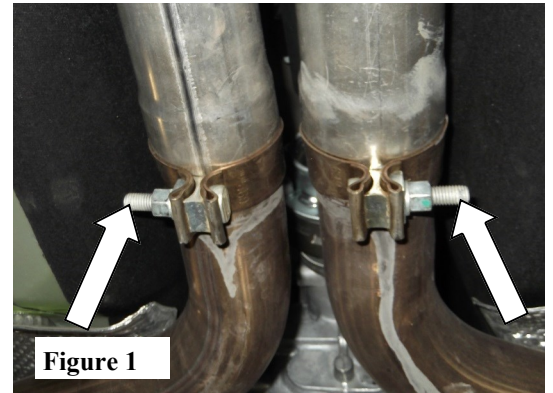

Figure 1
1. Loosen the clamps located in front of the x-pipe assembly. (See Fig. 1)